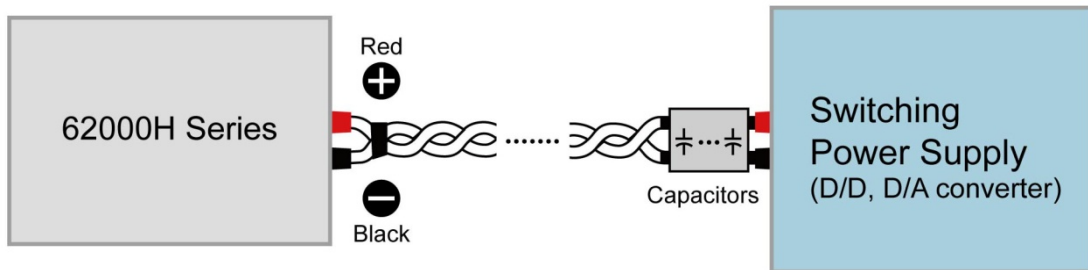

Figure 1-2
2. For switchable power load applications, if the output load cable is longer (>20cm) it is suggested to strand the load cable and parallel the capacitance at the load power input to prevent any unexpected oscillation from occurring, see Figure 1-2